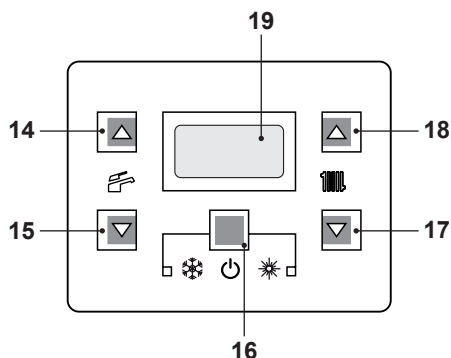
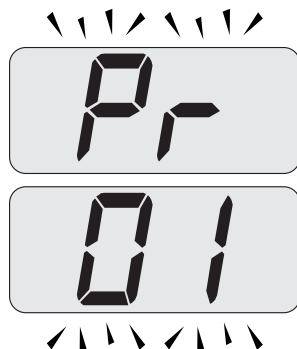
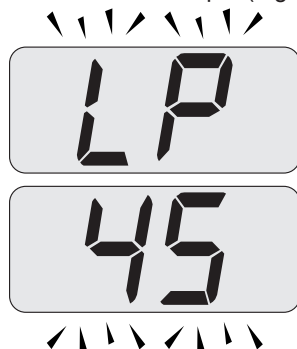
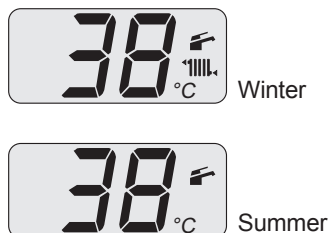

Fig. 10.17
Fig. 10.18
Fig. 10.19
Fig. 10.23
- Enter in "programming mode" by sequentially pressing and holding in keys, 16 - 17 and then 18 (Fig. 10.17) for 10 seconds until the letters **Pr** that alternate with code **01** are displayed on the LCD display, indicating that "parameter 01" (Fig. 10.18) has been activated.
- Press keys 17 and 18 (Fig. 10.17) at the same time until the LCD display displays the letters **LP** that alternate with the heating water temperature value (e.g. **45**), indicating the activation of the "flue sweep function" at minimum output (Fig. 10.19).
- By pressing 18 (Fig. 10.17) it is possible to change power in flue sweep mode: with the letters **hP** on the LCD display which alternate between the heated water temperature (i.e. **32**), we are in the "flue sweep function" at the minimum power during heating (Fig. 10.20).
- Press sequentially keys, 16 - 17 and then 18 (Fig. 10.17) and hold in for 10 seconds to exit the "flue sweep mode" and return to the previously set boiler status (Fig. 10.23).